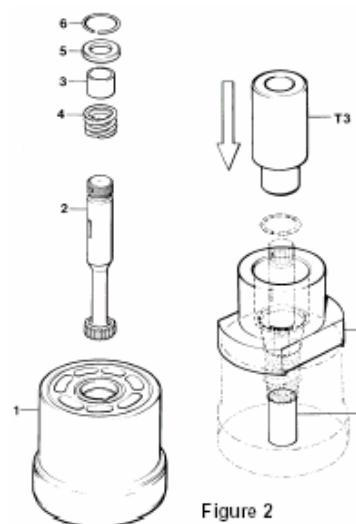

Figure 2
See Figure 2. Position the barrel (1) in a press with the large end turned down and insert tool figure T-1 in the splined shaft hole in the barrel.
PARTS LIST FOR FIGURE 2